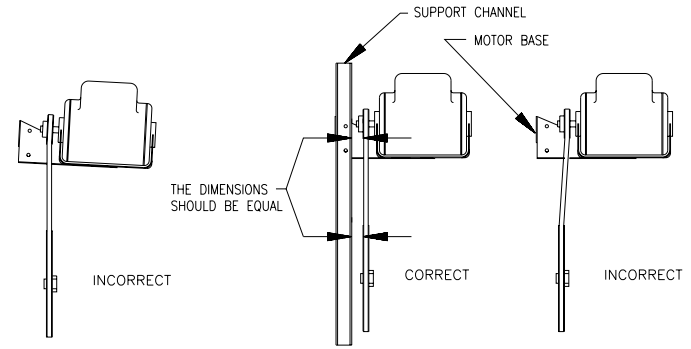

Figure 4
8. Check the alignment of the motor sheave and fan sheave as shown in Figure 4. Adjust the alignment if necessary. Measure from the support channel to the fan and motor drive. This dimension should be the same.